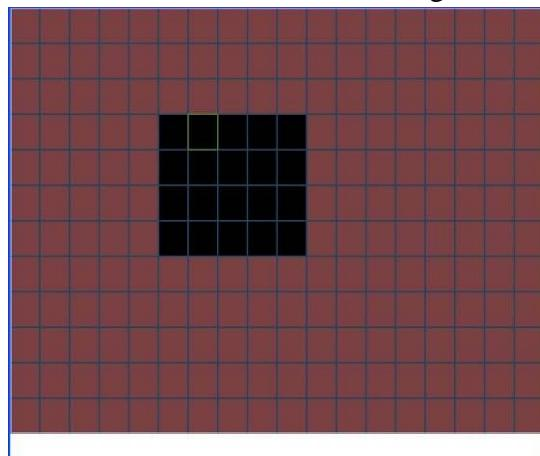

Figure 4-22
- Region: Click select button, the interface is shown as in Figure 4-22. Here you can set motion detection zone. There are 396(PAL)/330(NTSC) small zones. The green zone is current cursor position. Grey zone is the motion detection zone. Black zone is the disarmed zone. You can click Fn button to switch between the arm mode and disarm mode. In arm mode, you can click the direction buttons to move the green rectangle to set the motion detection zone. After you completed the setup, please click ENTER button to exit current setup. Do remember click save button to save current setup. If you click ESC button to exit the region setup interface system will not save your zone setup.
In Figure 4-22, you can left click mouse and then drag it to set a region for motion detection.